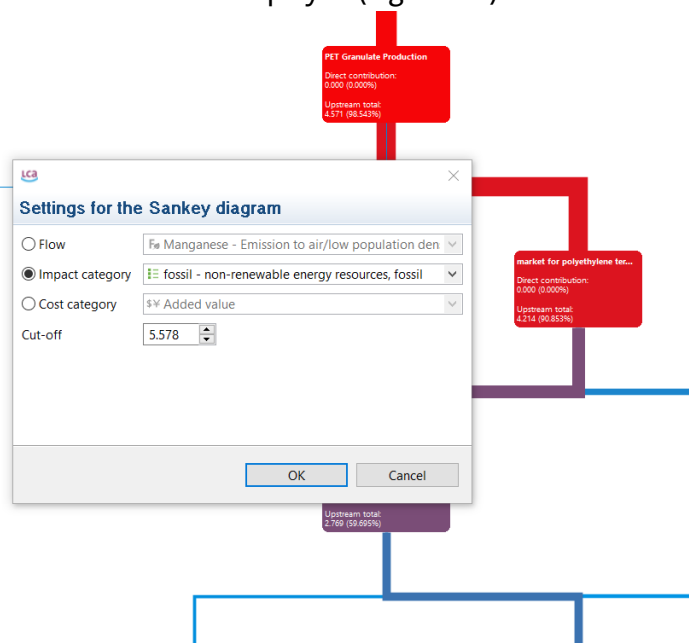

Figure 116: Analysis - Sankey diagram
- “Set Sankey diagram options” to select the flow or impact or cost category (If the box “Include Cost Calculation” is checked when setting the calculation properties, see Section 9.3), and cut-off level to be displayed (Figure 116).